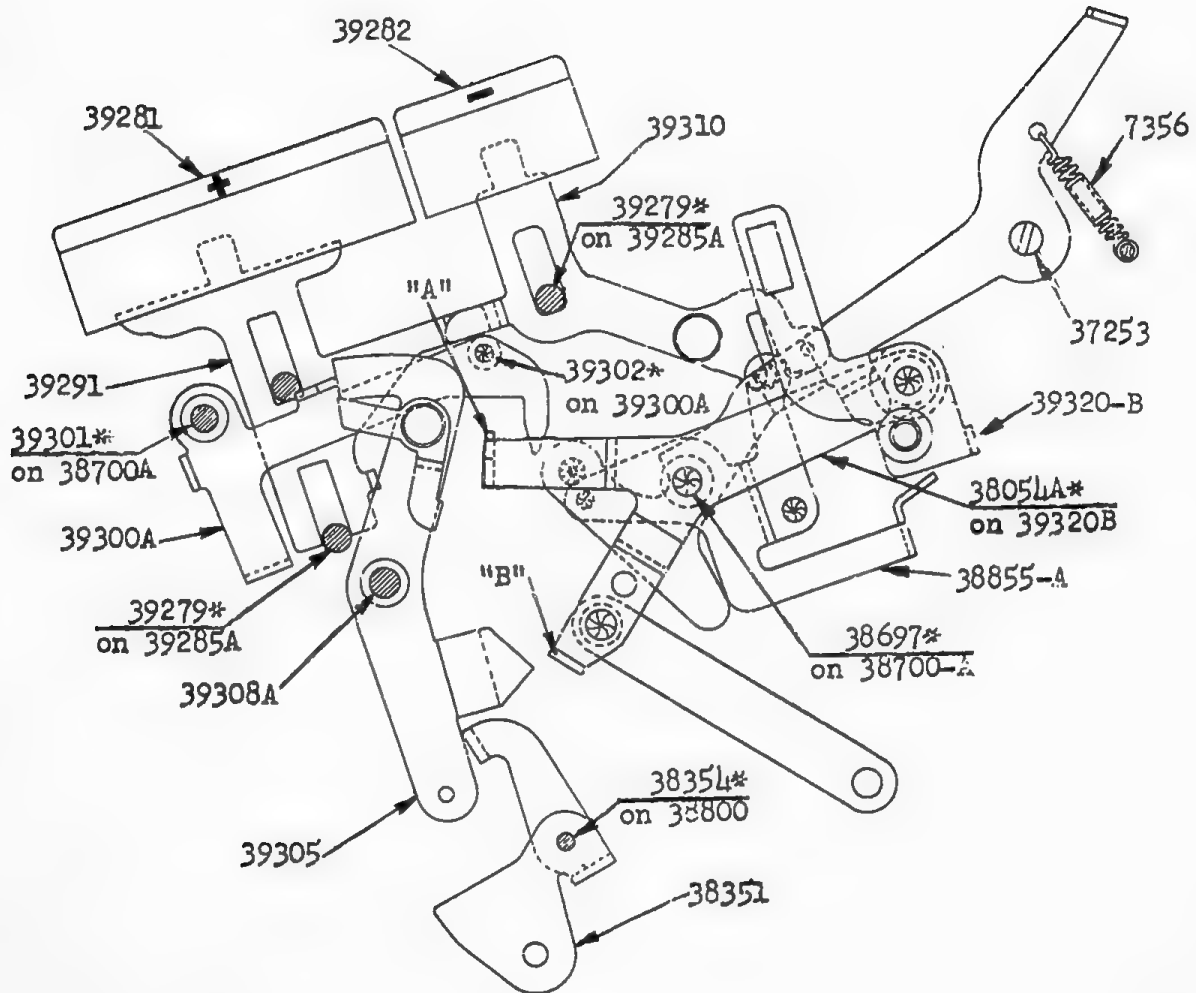

FIG. 82
1. (Fig. 82). During division, ear "A" on the Division Key Assembly-39320B underlies Stud-39302* on the Add Bell-crank-39300A, thereby preventing depression of Add Key-39291 or Subtract